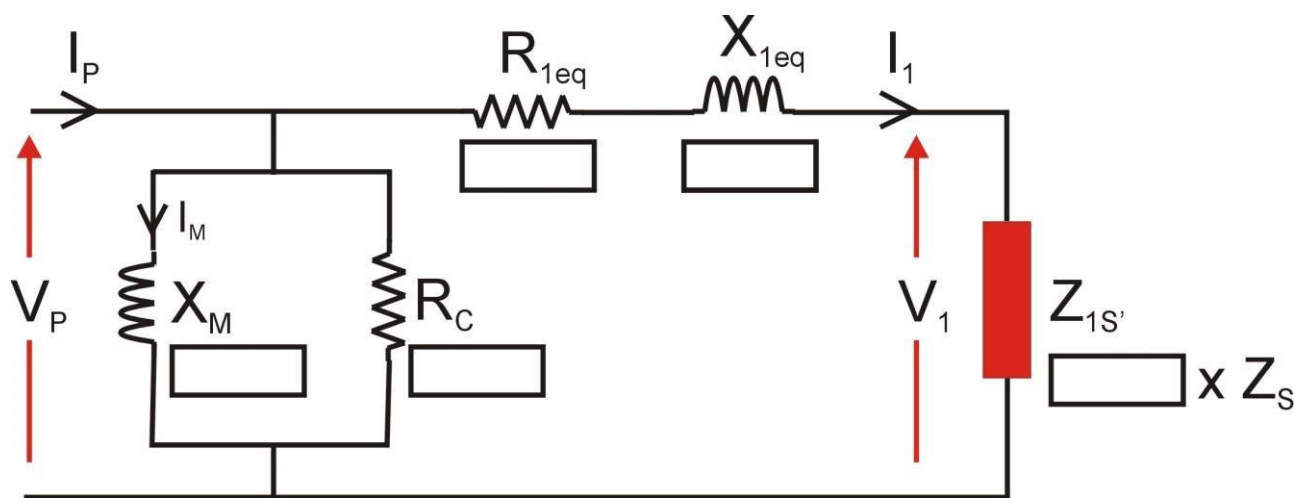

Figure 7: Measured Transformer Equivalent Circuit
From your results fill in the component values of the complete transformer equivalent circuit shown on Figure 7. Also note that the value of $Z_{1s'}$ (secondary load impedance REFERRED TO THE PRIMARY SIDE) is equal to the (turns ratio)² x Secondary Impedance (Z_s). Calculate the value for (turns ratio)² based on your measured value for turns ratio and put this value in the box below $Z_{1s'}$ in Figure 7.
2. Using the equivalent circuit on Figure 7 calculate I_1 (hint: ignore X_m and R_c components)
3. Using the equivalent circuit on Figure 7 calculate V_1 (hint: $V_1 = I_1 \cdot Z_{1s'}$)